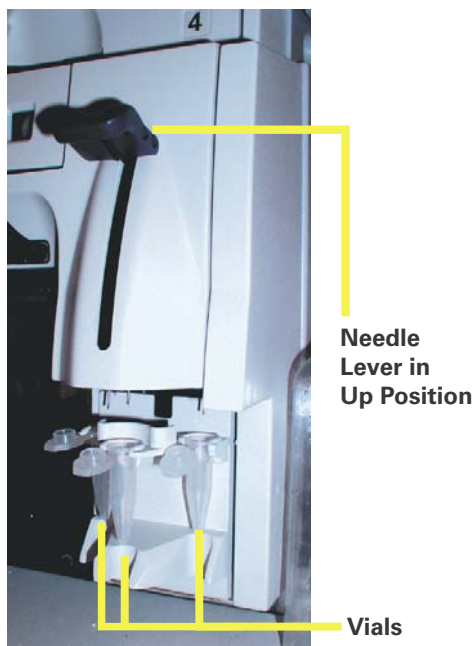

Figure 2.7
- c.** If prompted to “**Load Vials 1-2-3,**” place the three 1.5mL vials containing the proper reagents into the sample holders 1, 2, and 3 on the fluidics station. For example, if you are using the streptavidin-anti-streptavidin-biotinylated-antibody-SAPE staining protocol for the E. coli Genome Array, follow this procedure (Figure 2.7).